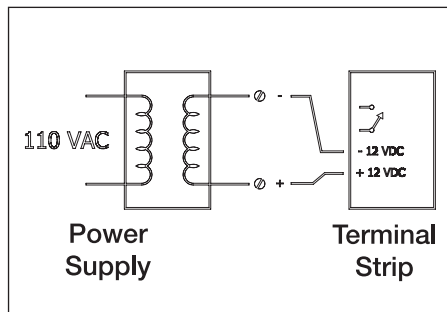

Figure 12
5. Install wiring (The wire is installer supplied. Thermostat wire is acceptable) between the green circuit board connector and the Power Supply, observing polarity, as shown on both the Power Supply and the control panel. [+ to + and - to -] **Figure 12**